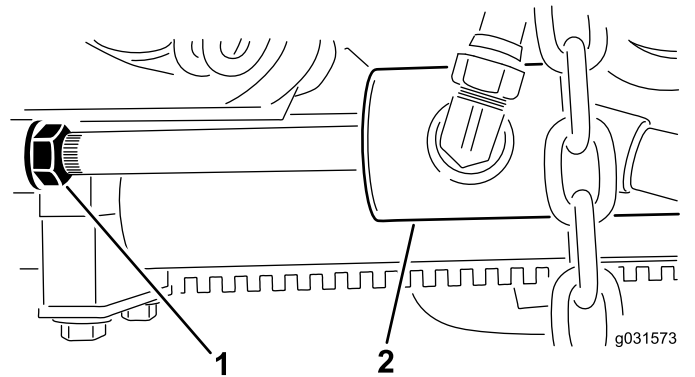

Figure 14
- B. Back off the jam nut on the cylinder (Figure 14).